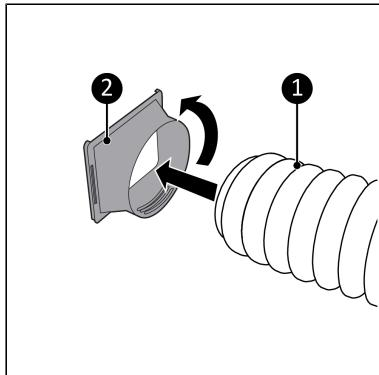

Figure 24.
1. Connect the hose connector (Figure 24, pos. 2) to one end of the hot air outlet hose (Figure 24, pos. 1).